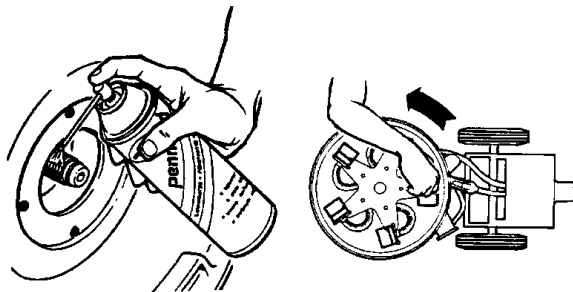

FIG. 18
10. Coat the motor shaft with lubricant before reinstalling the cleaning head. Apply grease to o-ring. Locate the head onto the shaft, making sure the threads are aligned properly, and rotate the head counterclockwise (Figure 18).